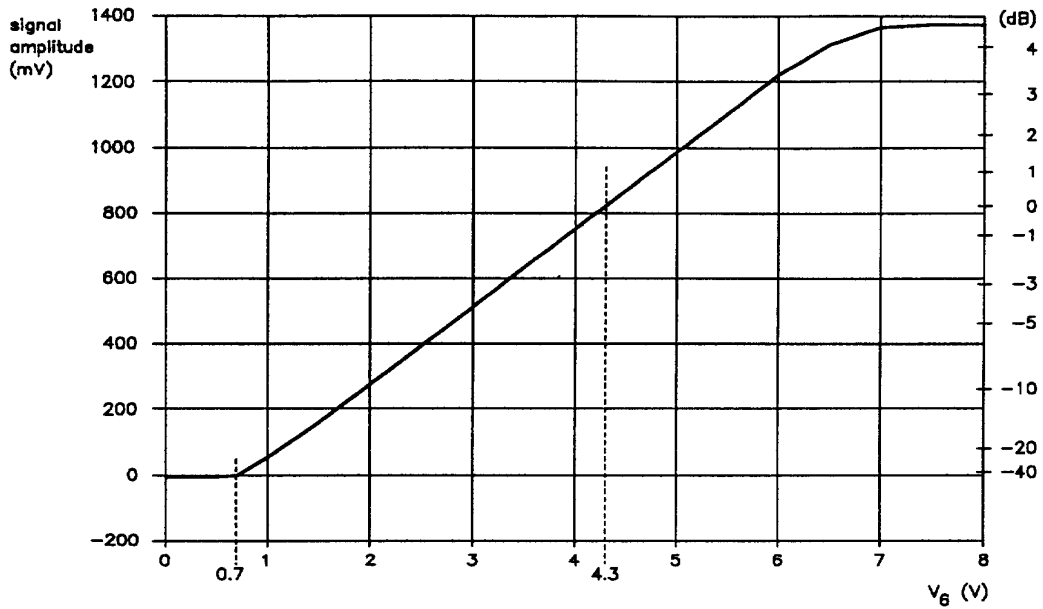

Fig.5 Typical contrast characteristic.
2. Linear control range is 1 to 6 V for V_6 , independent from supply voltage. Open pin 6 leads to absolute maximum contrast setting. It is recommended to not exceed $V_6 = V_P - 1 \text{ V}$ in order to avoid saturation of internal circuitry. For $V_6 < V_{M6} \sim 0.7 \text{ V}$ a small negative signal ($\sim -40 \text{ dB}$) will appear. For frequency dependence of contrast control see note 14. Typical contrast characteristic see Fig.5.